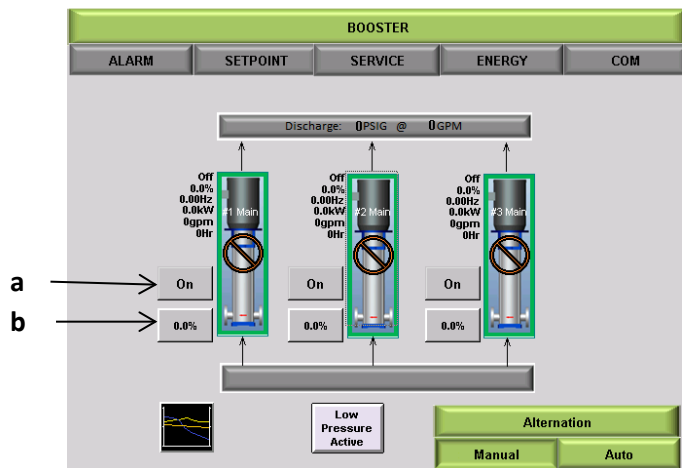

Figure 15: Basic Booster Manual Screen
- 3. **Manual Mode** is activated/deactivated by tapping [MANUAL] from the home screen. When activated, a dedicated screen will appear as shown in **Figure 15** to allow manual operation of individual pumps.